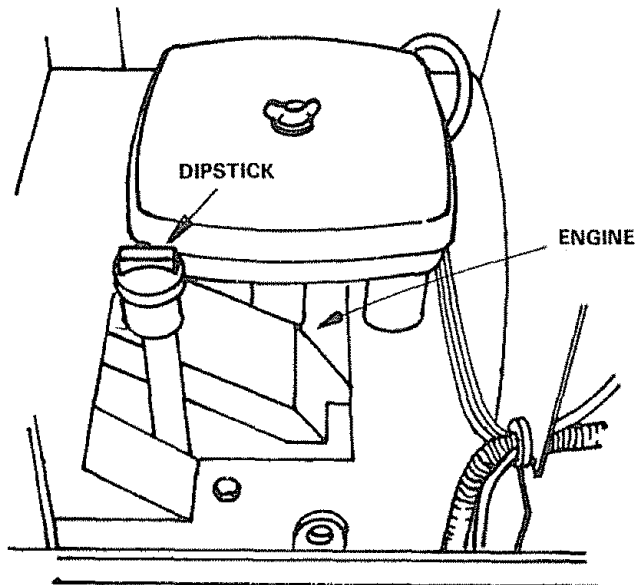

FIGURE 12
- This engine has been shipped filled with summer weight oil (for cold weather operation see Chart page 16). Check engine oil level with tractor on level ground. Wipe dipstick (Fig. 12) clean, screw it in tight for a few seconds, remove and read oil level. If necessary, add oil until "FULL" mark is reached. See chart page 16.